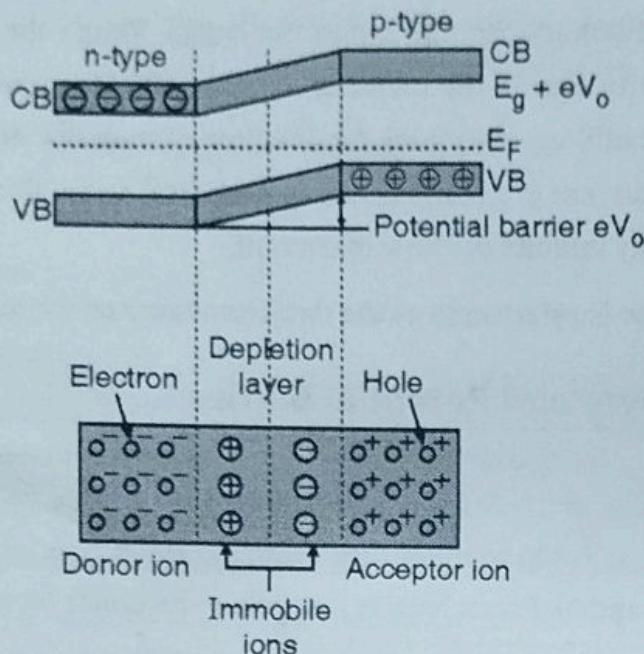

Fig. 2.3.2 : Unbiased p-n junction
- As the diffusion takes place across the junction the holes and the electrons combine to neutralise each other at the junction and produce a free space called **depletion layer** as shown in Fig. 2.3.2.
- At the junction due to the migration of a few holes from p-type to n-type region, the negative immobile ions are produced in p-region and in the same way positive immobile ions are produced in n-region as shown in Fig. 2.3.2.